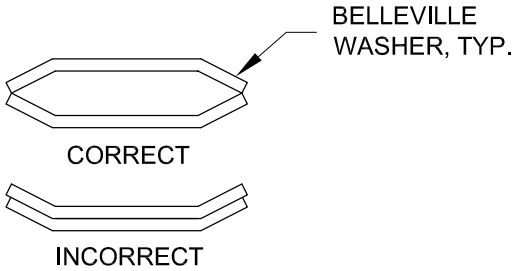

FIGURE 3:
Step 3: Grease the SF 4048-16 Bronze Bushings with Aeroshell #5, (Blue) Marine/Boat Trailer Grease or equivalent. Slide the Nose Fork Assembly and the two U-611 Washers (The U-611 washers are "cupped", and to function properly, the outside perimeter of both washers must be in contact with each other when installed, as per Figure 3) onto the WD-1201 Nose Gear Assembly. Finally, thread on the MS21025-20 Nut.